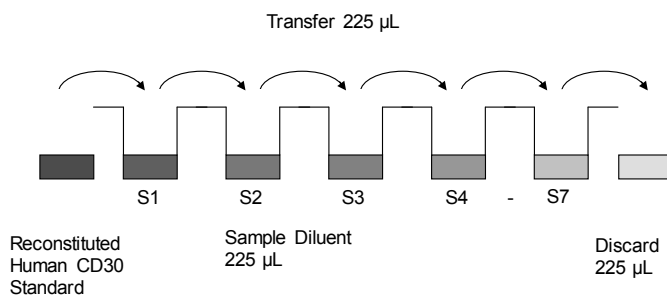

Fig. 5 Dilute standards - tubes
- Repeat serial dilutions 5 more times thus creating the points of the standard curve (see Figure 5).